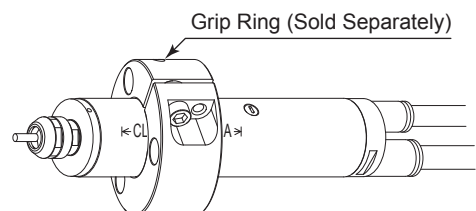

Fig. 10
- \* When installing an Air Motor Spindle, use a " Grip Ring GR-30 (sold separately) "(Fig. 10) recommended. If the Grip Ring GR-30 (sold separately) cannot be used due to the restriction of dimension and space, install as shown in ② below.